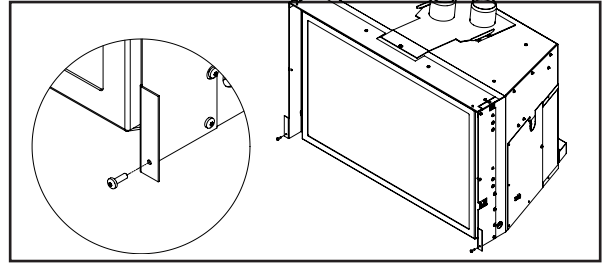

Figure 40: Trimmable Panel Screw Install.
INSTALLATION: Using a T20 screwdriver, screw one (1) #8-32 x .5" screws approximately 1/4" into the bottom of each Side Extension (see Figure 40).